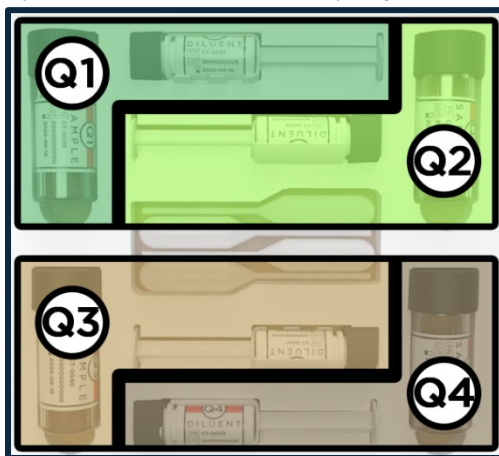

Figure 1. Overview of sthemE Qualiris EQA Proficiency Kit Contents.
This kit contains testing materials for the full calendar year (Figure 1). Each user will perform **Q1** and **Q2** in the Spring; **Q3** and **Q4** in the Fall.
1. Remove a **set of materials** from the kit box (Figure 1, Page 2) as relevant to the seasonal campaign you are performing testing for (**Spring: Q1 + Q2, Fall: Q3 + Q4**). Return the kit box to refrigerated storage if additional materials remain.